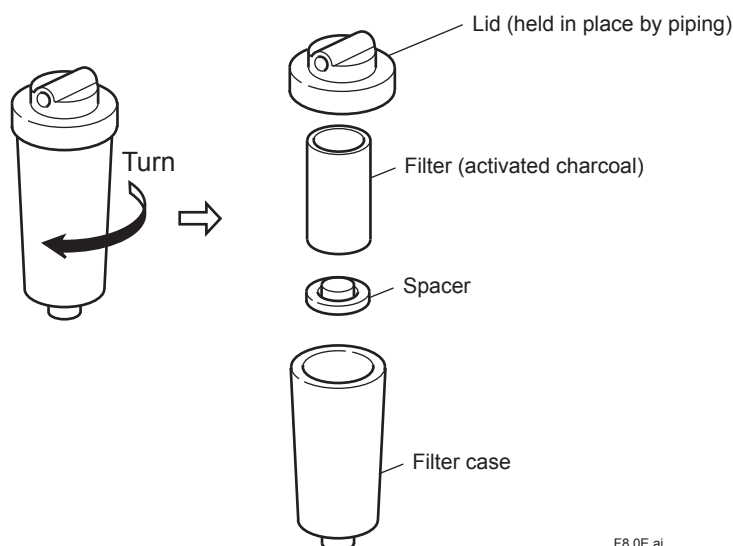

Fig 8.1 Replacing Activated Charcoal Filter
- Page 8-3, Some revision of Figure 8.1.
- (1) Close BV1 and BV2, then rotate filter case to remove (see Figure 8.1).
- (2) Clean inside of case with brush or the like.
- (3) As illustrated in Figure, replace filter with new one.
- (4) Reassemble using the reverse procedure, then open BV3 and BV1 to pass water through filter. Check that there are no water leaks from filter and piping, and no bubbles in drain water.
- (5) Operate for about 20 min. then confirm that free available chlorine analyzer reading is near zero.
- (6) Close BV3 and open BV2 ball valve.